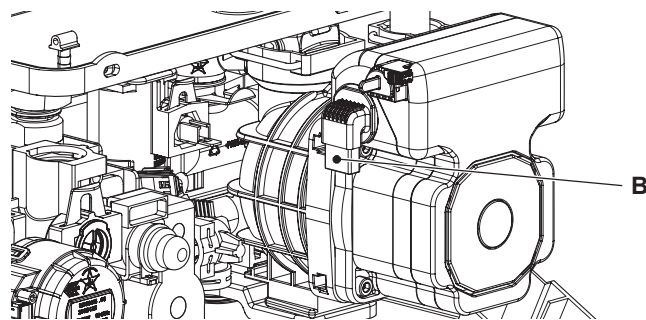

Figure 8.2
- 3 Disconnect the connector B (Figure 8.2).